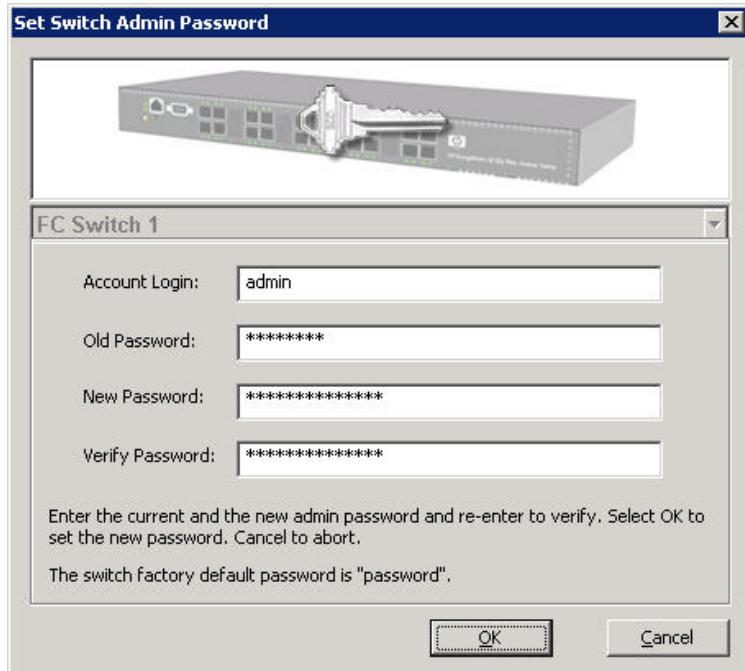

Figure 15 Set Switch Admin Password dialog box: new switch setup
- To continue with the next step of switch setup, click **Yes**. The Set Switch Admin Password dialog box (Figure 15) opens. Go to step 8.